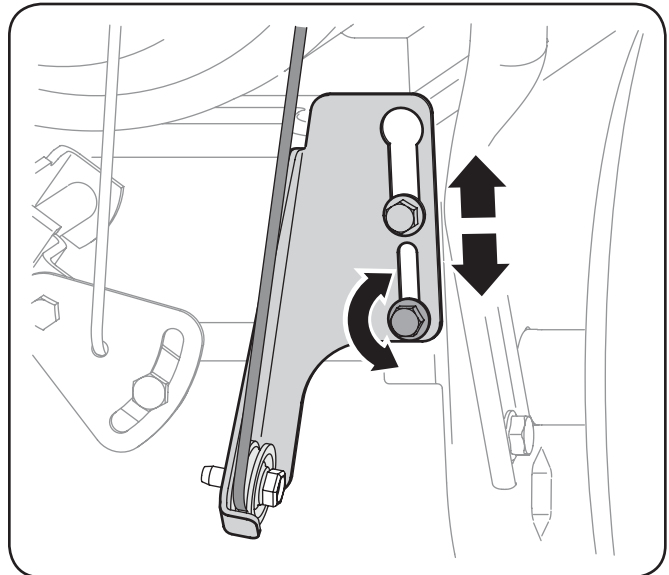

Figure 6-5
2. Loosen the lower hex screw on the drive cable bracket. See Fig. 6-5.